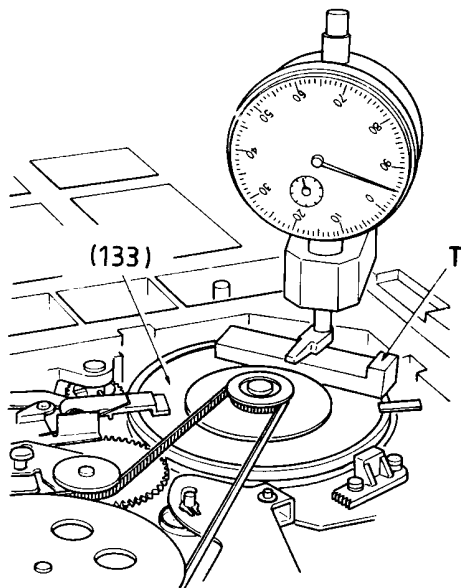

Fig. 20
- Put the height gauge "T" onto the capstan rotor (133) and place the dial height gauge onto the ground edge of the chassis as shown in Fig. 20. Set the dial height gauge to zero.